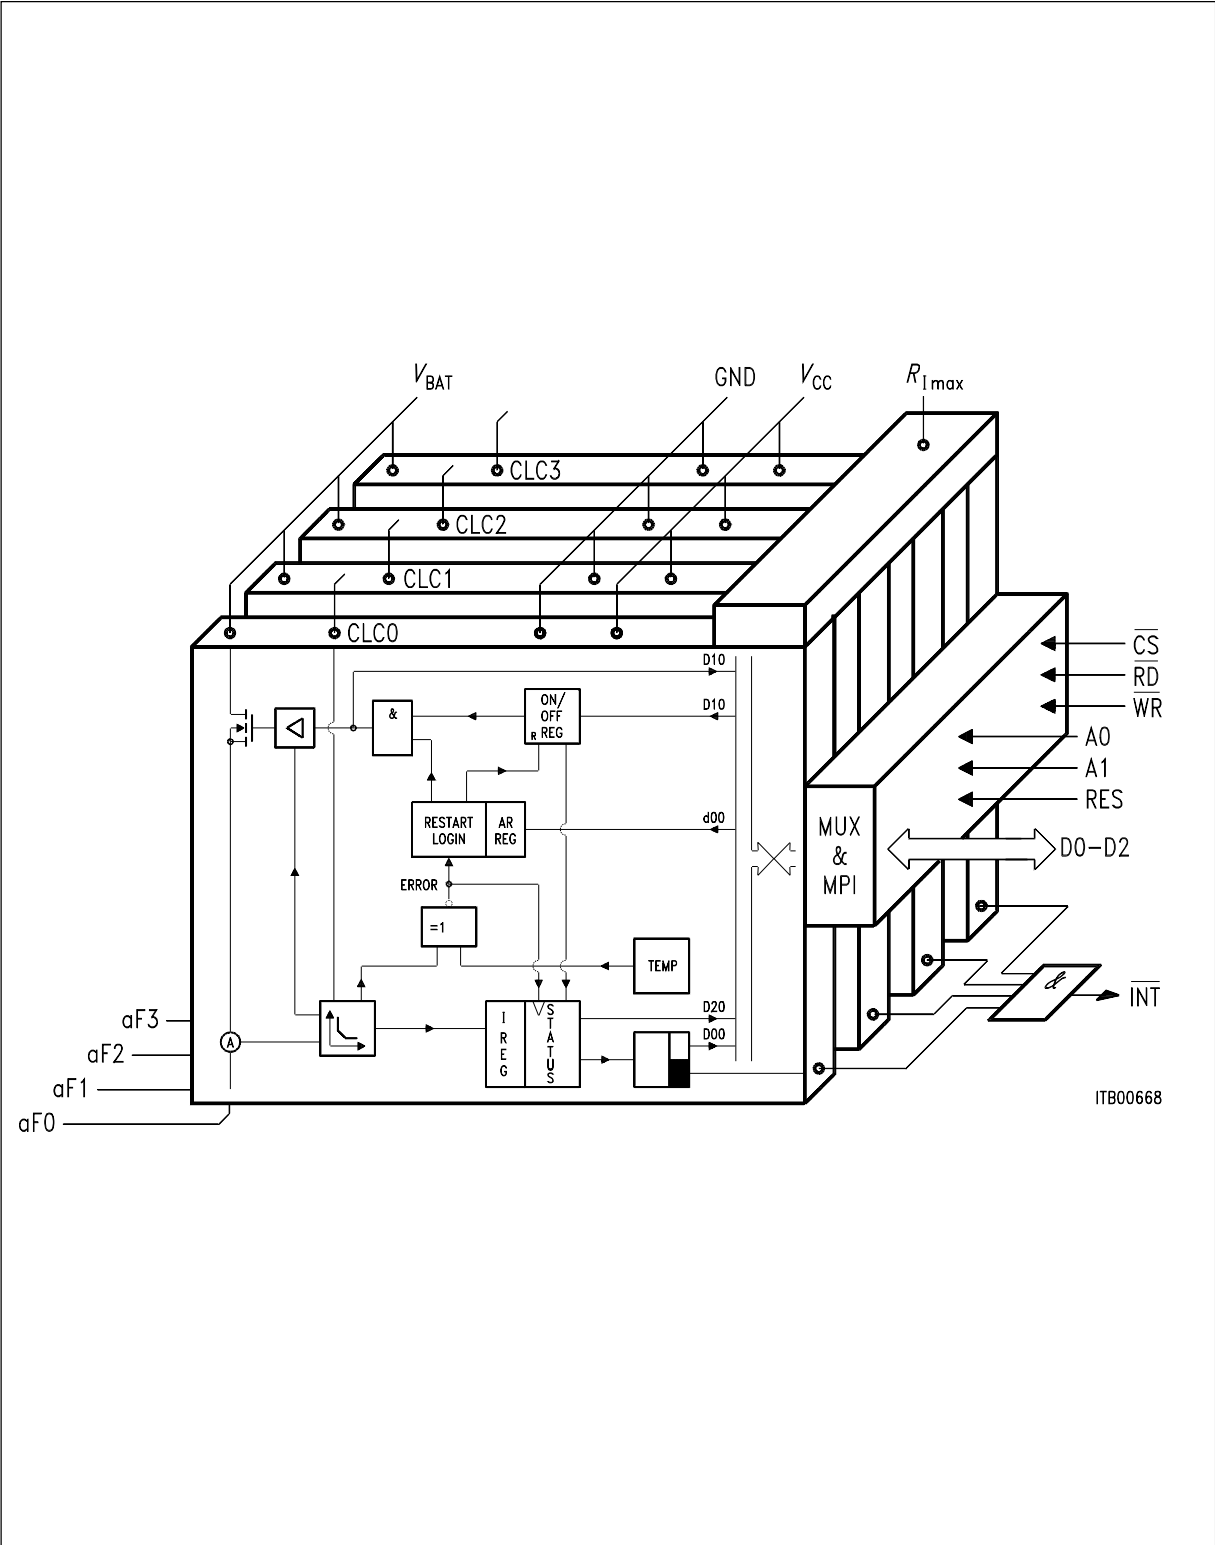

Figure 2
**Figure 2** shows the IEPC organization. The exchange power controller contains one line driver for each of the four transmission lines. A line oriented register architecture allows very simple software control.